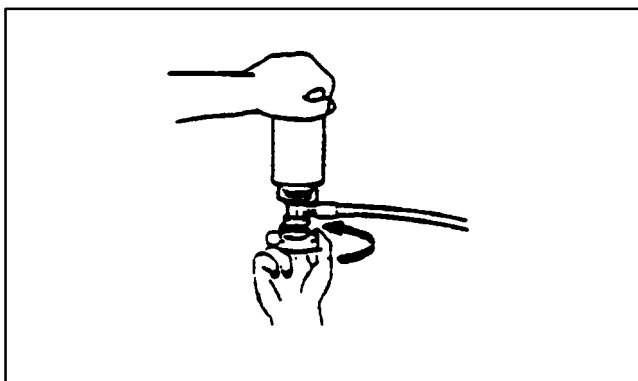

Figure 11
- (8) When charging is complete, turn the service can valve handle clockwise to shut it off. **(Figure 11)**